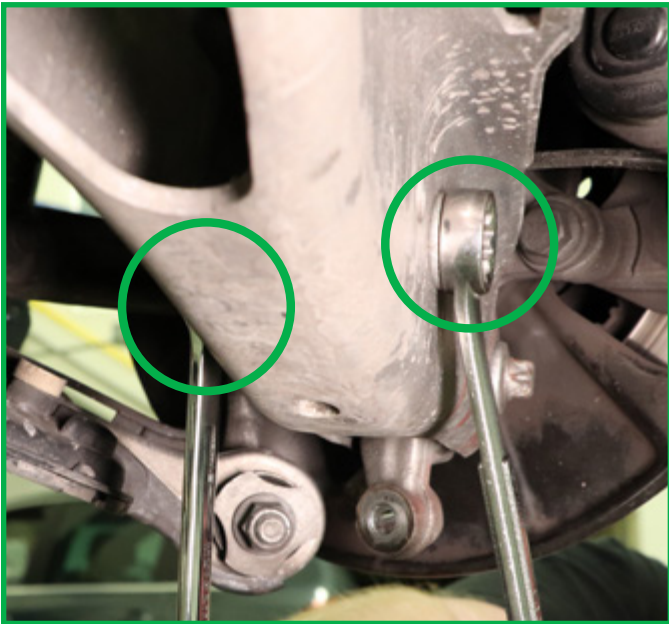

FIGURE 12
9. Remove lower strut bolt. (Figures 12, 13)